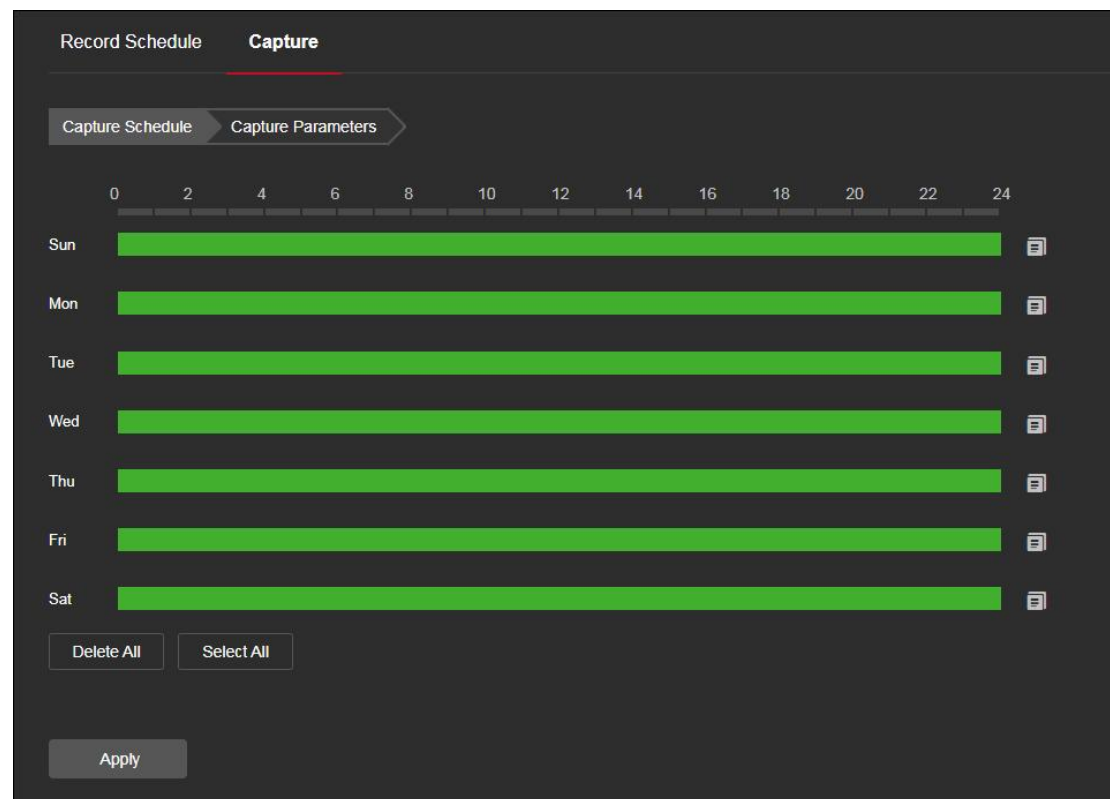

Figure 8-7-3
Step 1: In the main interface, click "Configuration → Storage → Schedule Settings → Capture" to enter the capture parameter setting interface, as shown in Figure 8-7-3.